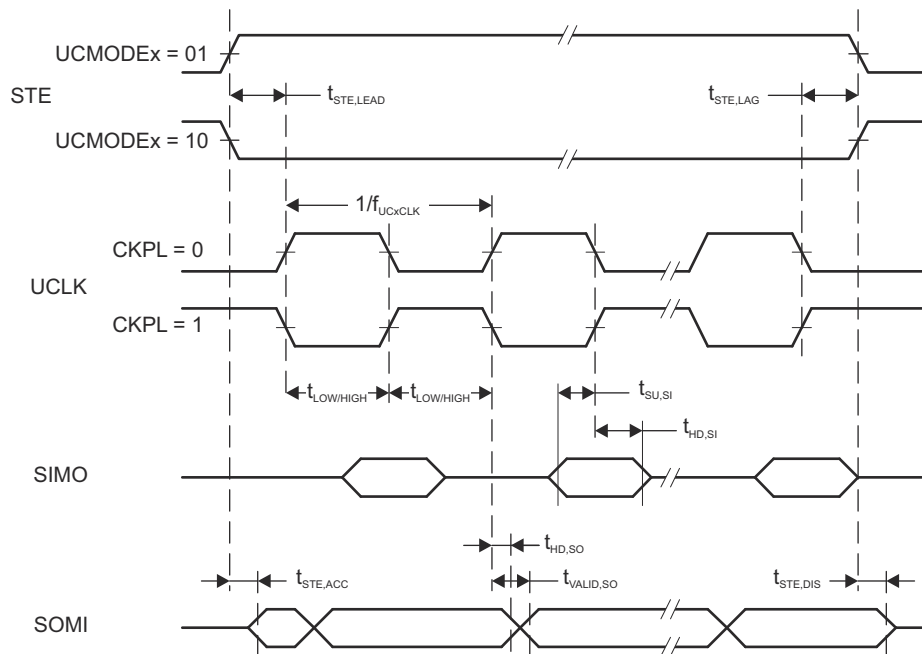

图 8-12. SPI Slave Mode, CKPH = 0
(2) Specifies the time to drive the next valid data to the SOMI output after the output changing UCLK clock edge. Refer to the timing diagrams in 图 8-12 and 图 8-13.
(3) Specifies how long data on the SOMI output is valid after the output changing UCLK clock edge. Refer to the timing diagrams in 图 8-12 and 图 8-13.